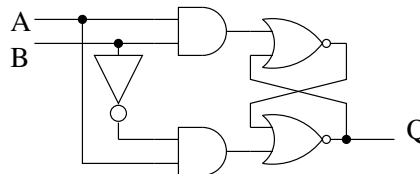

Figure 5.9
2. (8 pts.) Determine the state table for the circuit in Figure 5.9. Which basic memory element does it act like? Hint, one of the inputs is acting like a clock. Additional hint, in order to simplify the analysis, replace a portion of the circuit with a component from this chapter.